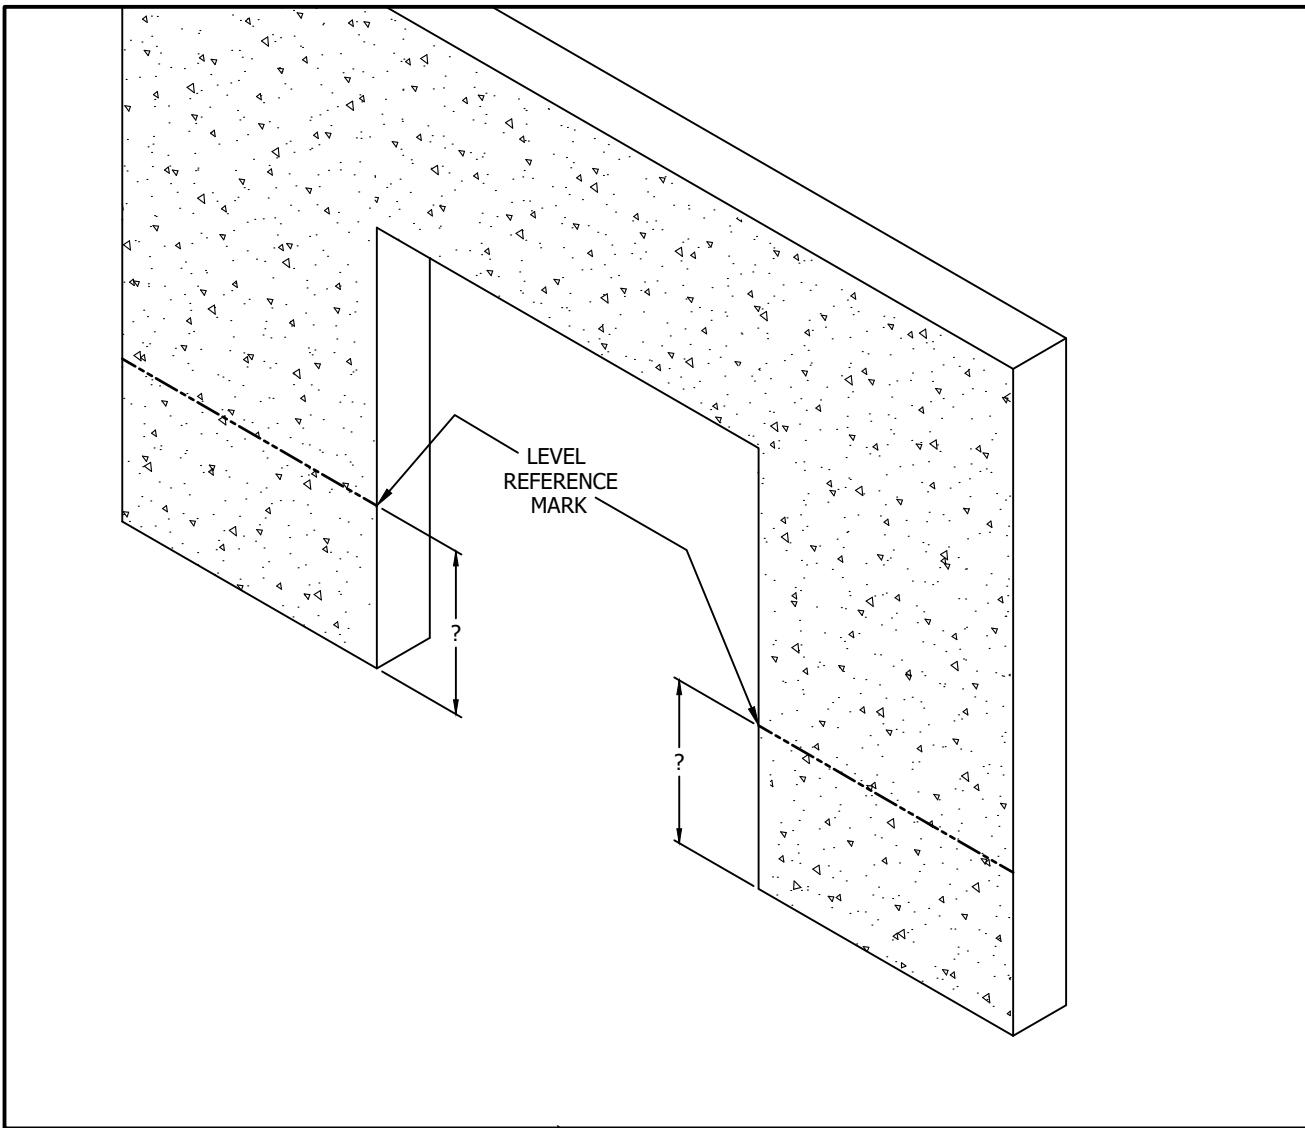

FIGURE 6
a. Create level elevation marks at left and right jamb faces using a level reference device or survey instrument as shown in Figure 6.
- ✓ This is an upward expanding fire door. Guide angles are designed to be set upon the floor unless one angle requires the use of steel shims at the floor level to create level guide elevations as shown in Figure 6.